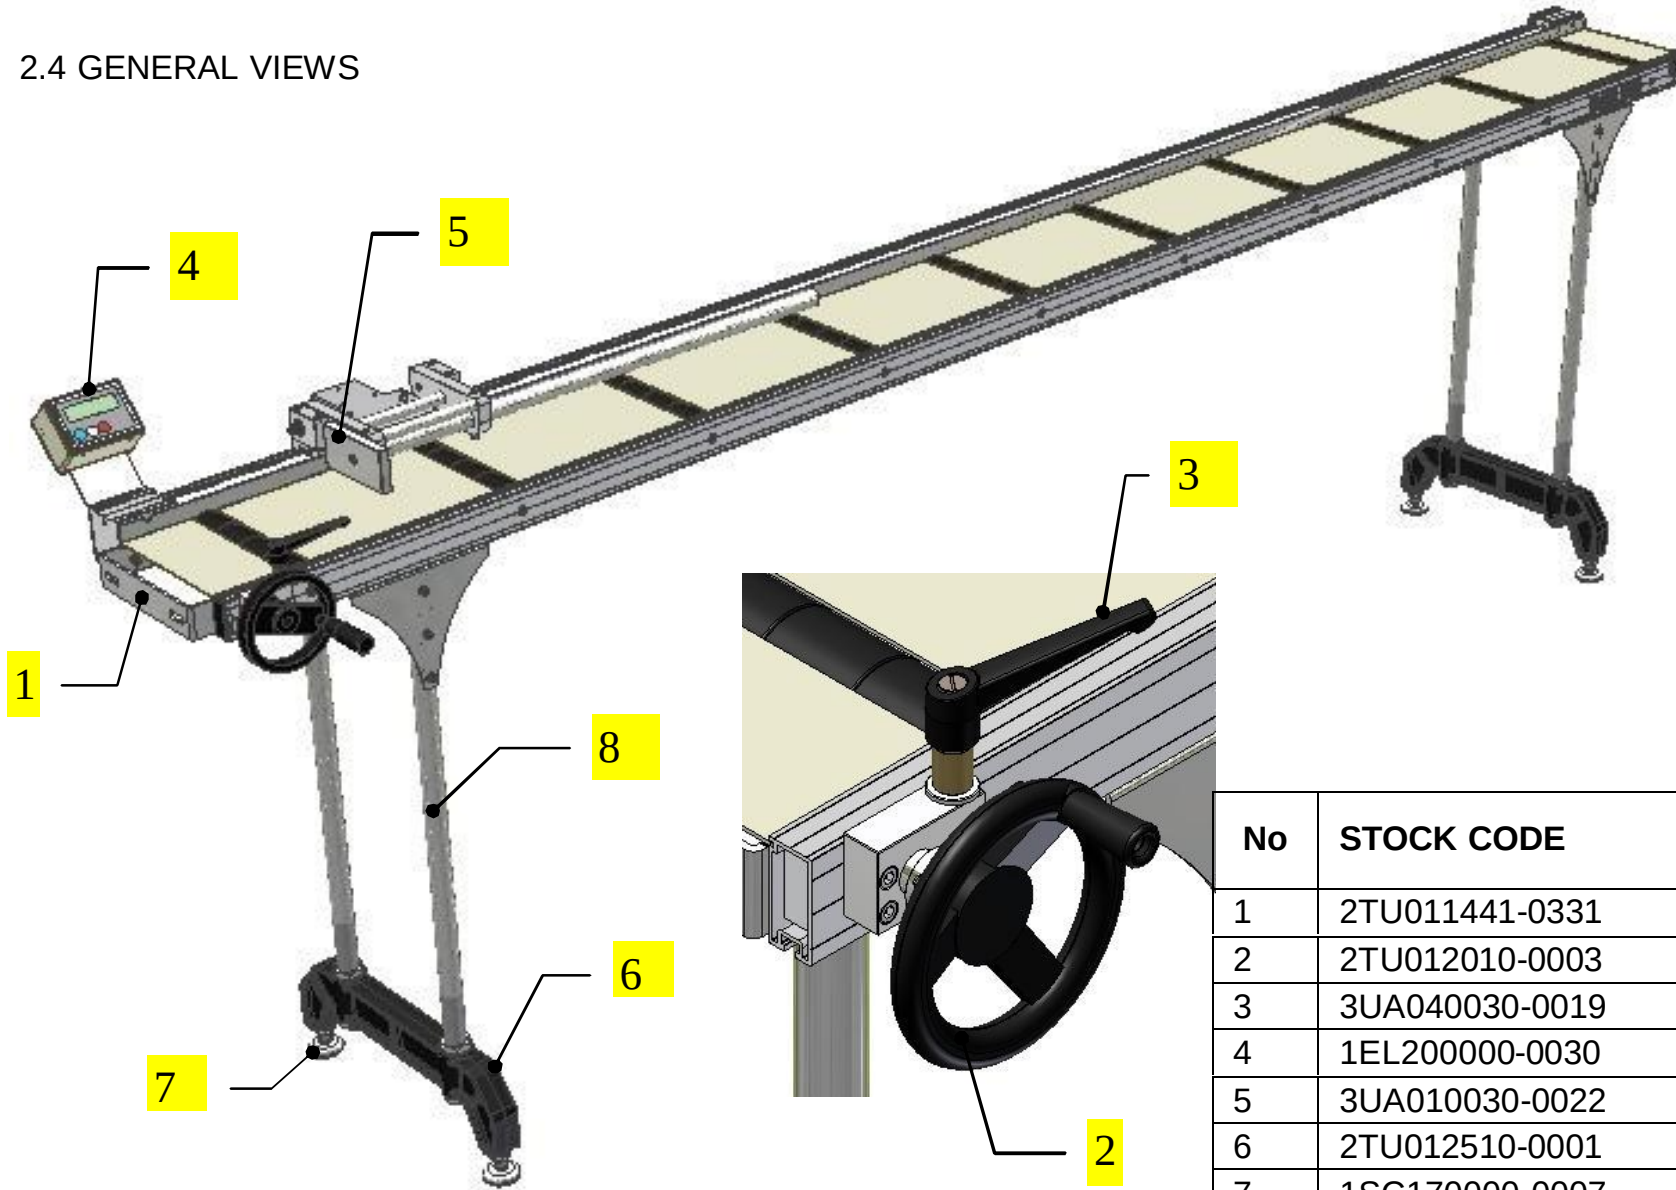

FIGURE 2
3.2. Firstly doing montage of foot group (Figure 2 NO.6,7,8)
3.3. Please contact the digital dimension reader as Figure (Figure 2 NO.4)
3.4. Please install the guide lever (Volant – Figure 2 No.2) and crimp handle (Figure 3 NO 3.) as Figure.
3.6. To connect the conveyor to machine you have requested,use the output flange plate (Figure 2.NO.1).To adjust the height and uniformity of conveyor,please use the bolts on conveyor's foot (Figure 2 NO.2) and feet of table(Figure 2 NO:7)